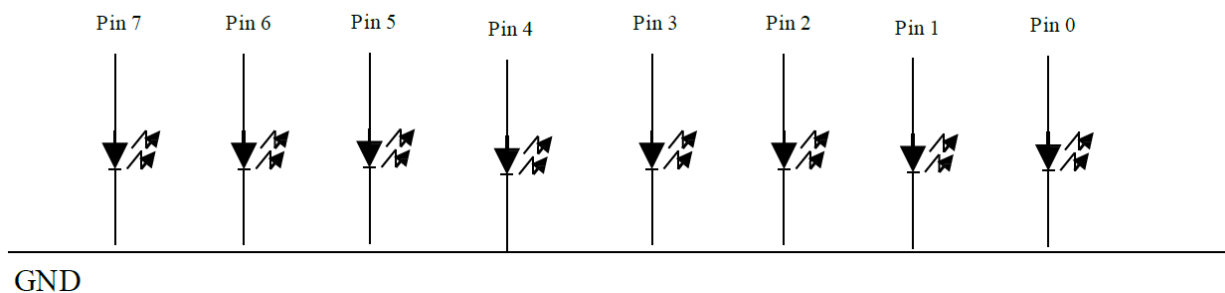

Figure 1.6: LED counting circuit to verify the programs on the Arduino board.
16. Connect 8 LEDs, as suggested by figure 1.6, to output pins on the Arduino to formulate a binary counter. Write a program that will count in a binary sequence and output the values on the selected port. Connect the positive side of a multi meter to one of the outputs. Connect the negative side of the multi meter to one of the grounded terminals. For lower order bits the multi meter should switch values about once per second, higher order bits will switch more slowly. The LEDs circuit should help you see the sequential counting. Note that LEDs are direction sensitive and if connected in reverse will not light. Note also that you need a protection resistor between the LED and the pin of 220 Ohms value.